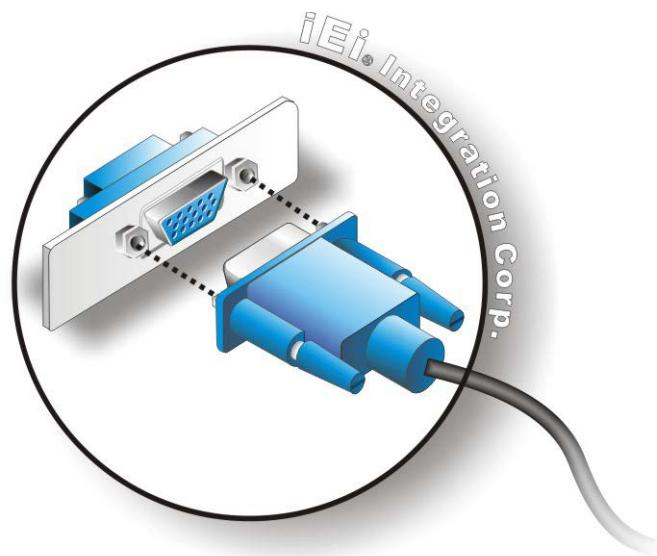

Figure 3-22: VGA Connector
Step 3: Insert the VGA connector Once the connectors are properly aligned with, insert the male connector from the VGA screen into the female connector on the TANK-871-Q170i series. See **Figure 3-22**.